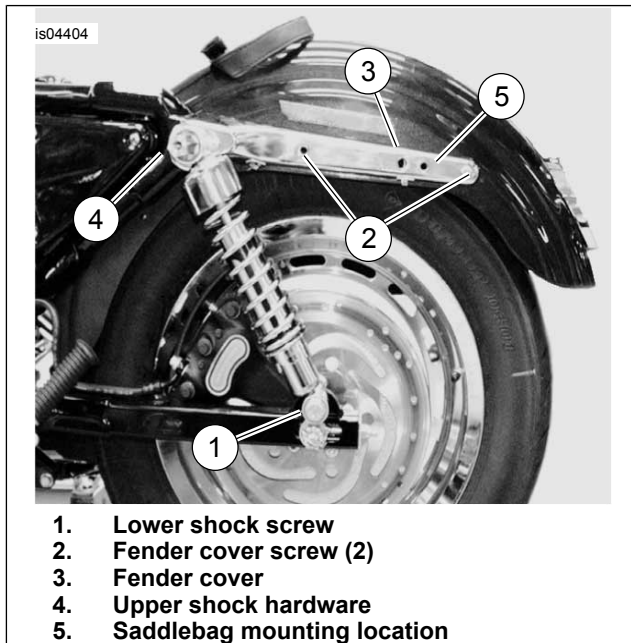

Figure 12. Shock and Fender Cover Hardware
2. See Figure 12. Remove left and right lower shock screws (1) so there is adequate clearance to install the saddlebag mounting hardware.
3. Remove remaining screws (2) from inside the fender that secure fender cover (3) to rear fender.
7. See Figure 12. Insert screw from inside fender through the second hole from rear (5) in fender cover.